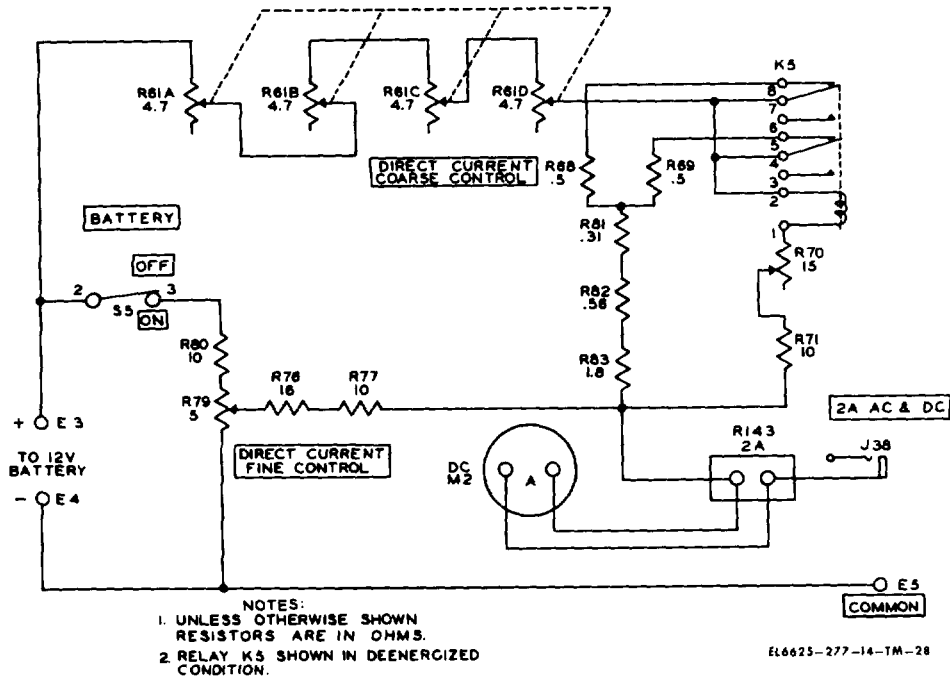

Figure 5-16. Two ampere dc test circuit, simplified schematic diagram.
d. *Two-Ampere Dc Test Circuit (fig. 5-16).* For the 2-ampere dc test circuit, there are two networks for regulating the supply of current to the meter under test. The DIRECT CURRENT COARSE CONTROL consists of resistors R61A, R61B, R61C, R61D, R68, R69, R81, R82, R83, R71 and variable rheostat R79; and DIRECT CURRENT FINE CONTROL consists of resistors R76, R77, R80 and variable rheostat R79. These two networks control the current supplied to the meter under test through jack J38. Meter shunt R143, meter M2, and binding post E5 (COMMON) complete the two ampere dc test circuit. Power is supplied by the 12-volt battery connected to binding posts E3 and E4.